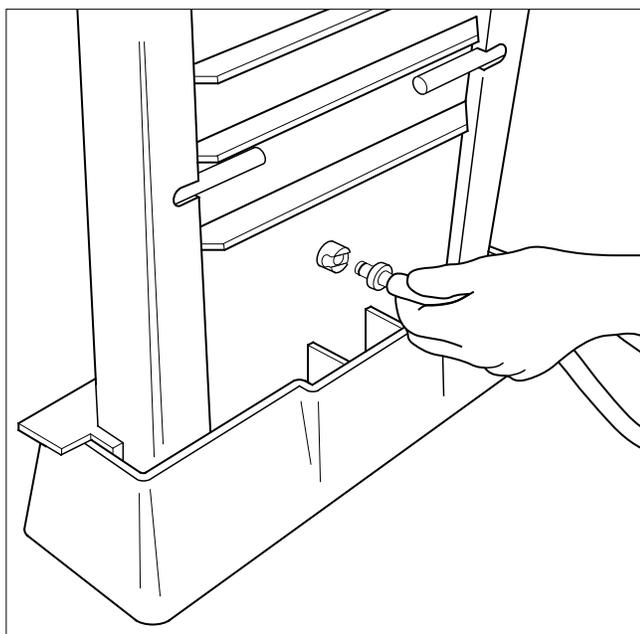

Fig. 4.10. Inserting the drain port connector for upper buffer chamber drainage.
- The upper buffer chamber can be partially emptied by inserting the drain port connector (and any attached tubing) into the drain port on the IPC. A “click” will be heard when the drain port/tubing connector has been properly inserted (Figure 4.10).